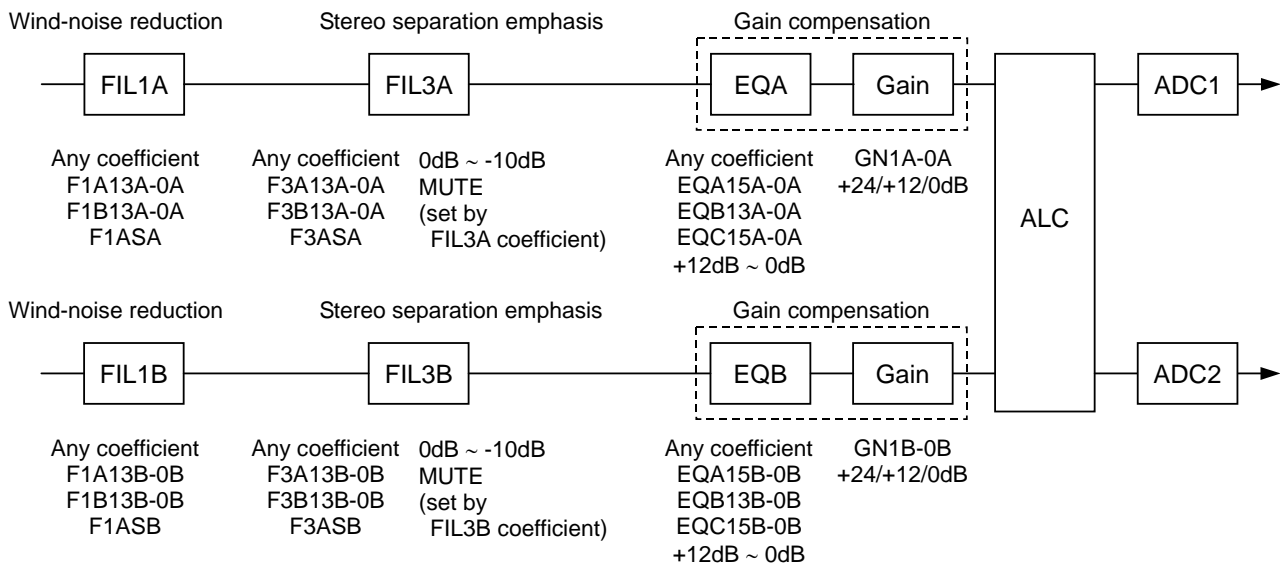

Figure 25. Digital EQ/HPF/LPF
ADC1 and ADC2 support mono data output. The both output mode of ADC1 and ADC2 are selected by ADM1-0 bits. This conversion to mono data from stereo data is done before window noise reduction circuit (Figure 25).
The AK4691 has wind-noise reduction filter (FIL1), stereo separation emphasis (FIL3), gain compensation (EQ) and ALC (Automatic Level Control) in digital domain for A/D converted data (Figure 25). ADC1 and ADC2 have FIL1, FIL3, and EQ blocks independently. ALC block is common to ADC1 and ADC2. FIL1, FIL3, and EQ blocks are IIR filters of 1st order. The filter coefficient of FIL3, EQ and FIL1 blocks can be set to any value. Refer to the section of “ALC operation” about ALC.